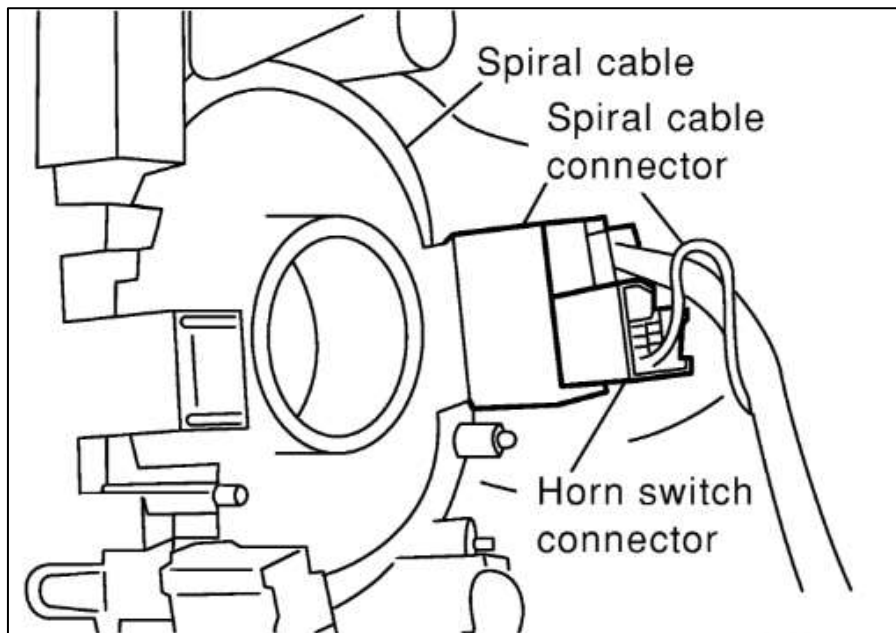

Figure 4
- d. Disconnect the Horn Connector and the Gray Connector for the Button Controls on the Steering Wheel. *Figure 4.*